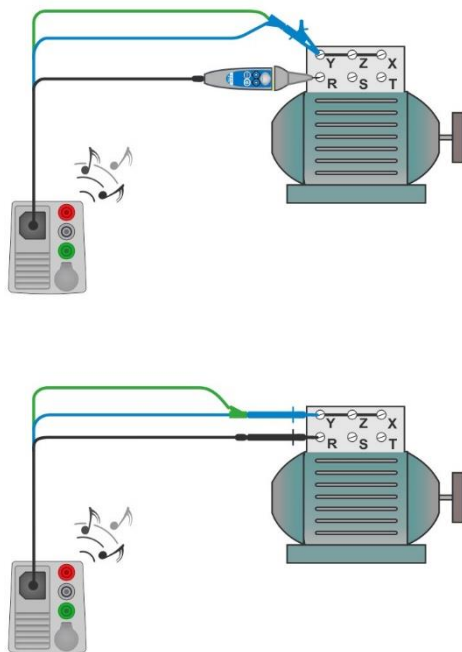

Figure 7.29: Tip commander and 3-wire test lead applications
- › Connect test leads to device under test, see **Figure 7.29**.